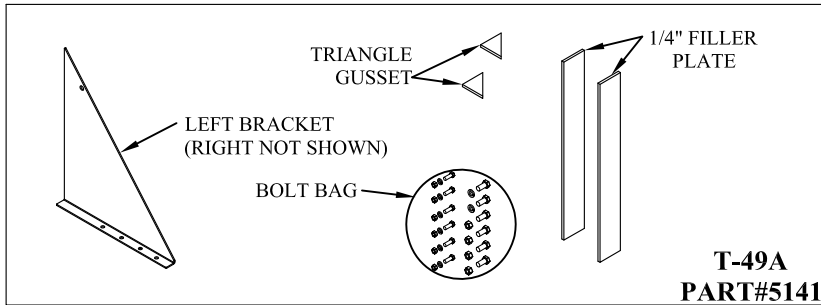

Figure 2: T-49A Part Identification.
3. **Verify** mounting bracket kit (Figures 2 and 3 and Tables 1 and 2).